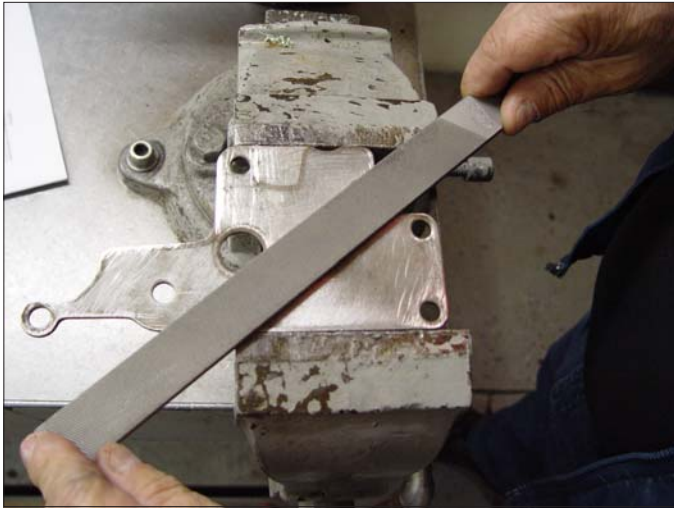

Figure 6
STEP 11. Clamp the spacer support plate in a vise and run a file across the surface that will contact the separator plate. (See Fig. 6) The spacer support plate must be flat. If your support plate is bent or excessively warped, it should be replaced (Chevrolet Part #338905).